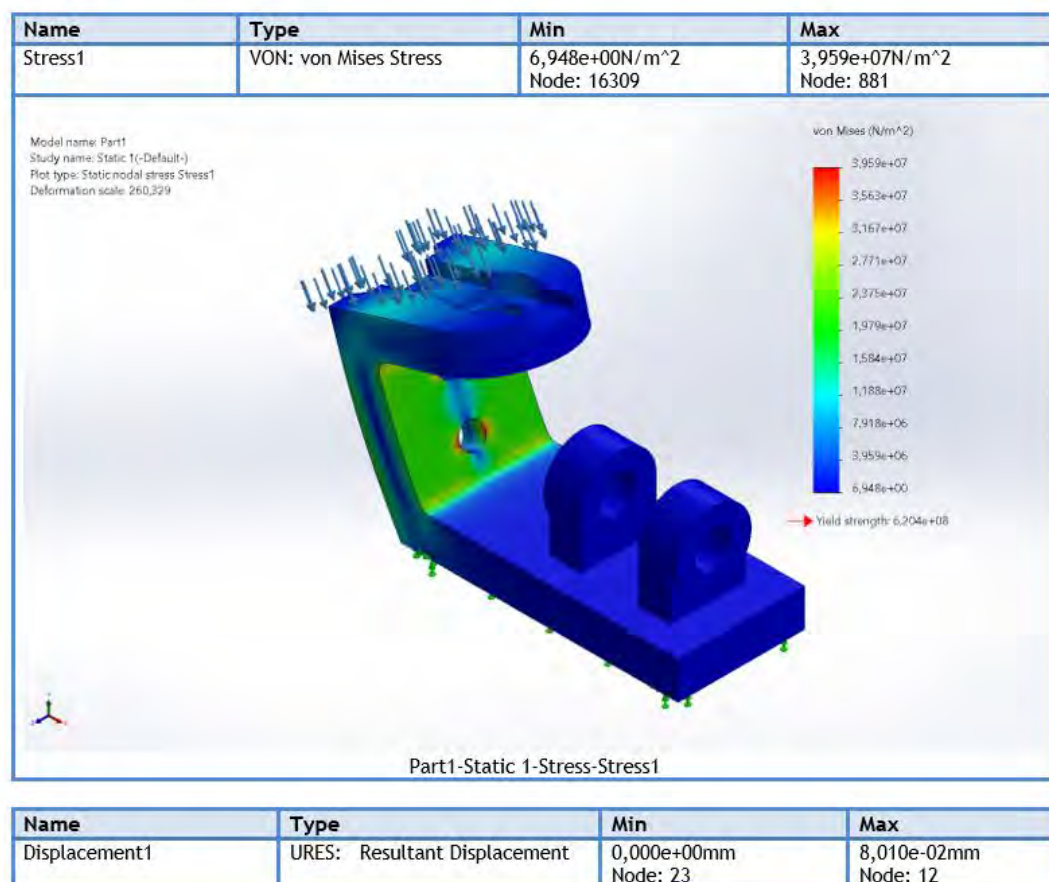

Figure 26 – Example of presenting results in a generated report
- The automatically generated report contains structured information and basic results plots (Fig. 26).